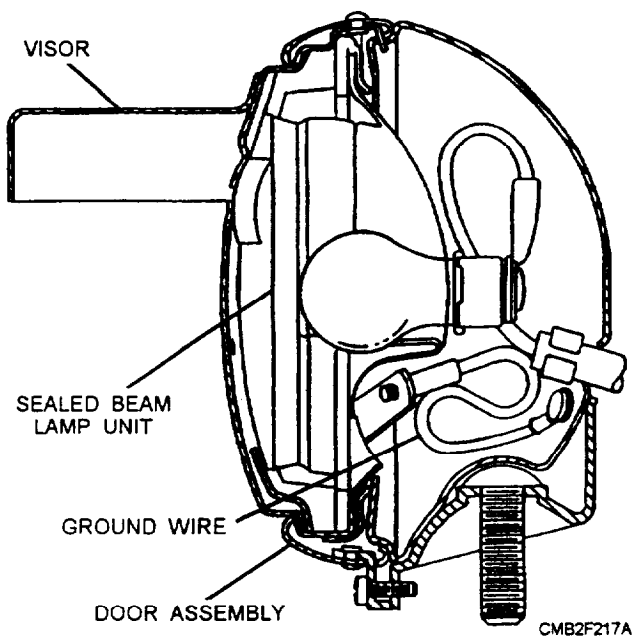

Figure 2-65.—Blackout driving light.
- The BLACKOUT DRIVING LIGHT (fig. 2-65) is designed to provide a white light of 25 to 50 candlepower at a distance of 10 feet directly in front of the light. The light is shielded so that the